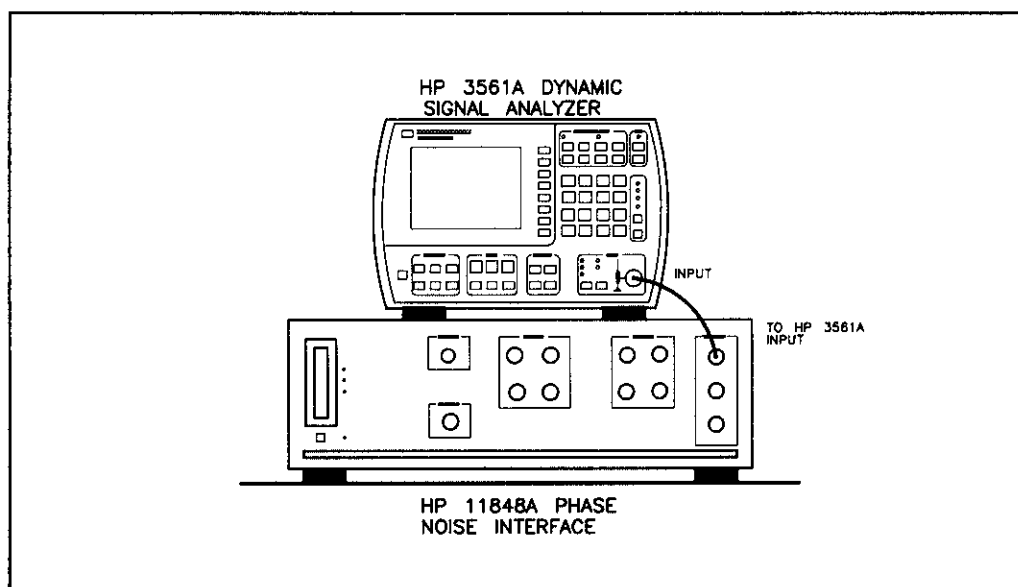

Figure 12. A3 DC Offset Adjustments Setup
5. Connect the instruments as shown on the display and in figure 12.